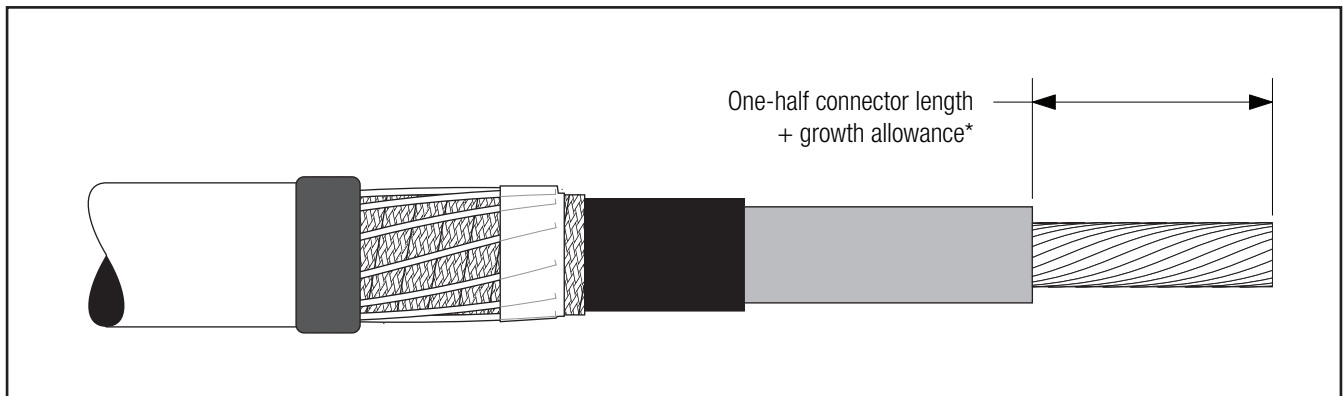

Figure 9
- 3.3 **If using a crimp type connector,** remove cable insulation for 1/2 connector length plus an allowance* for increases in connector length due to crimping. Insulation removal length shall not exceed 2 7/8" (73 mm) from conductor end. **Do not install connector now** (Figure 9).